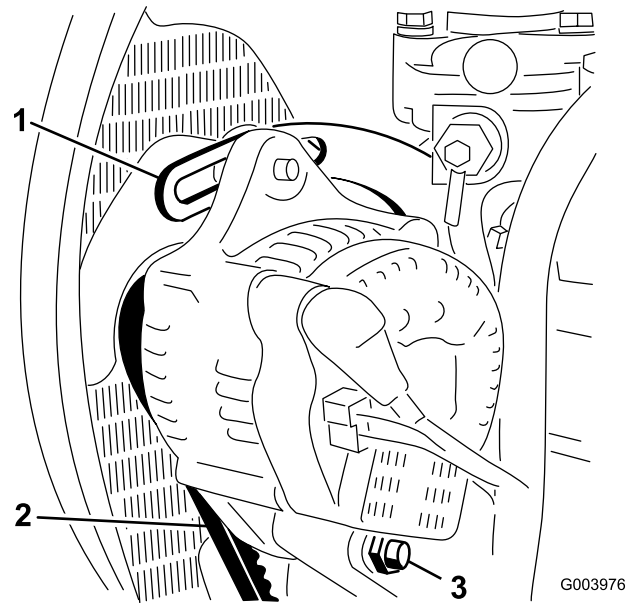

Figure 74
2. Check the tension of the alternator belt by depressing it (Figure 74) midway between the alternator and the crankshaft pulleys with 22 lb (10 kg) of force.
3. Loosen the bolt securing the brace to the engine (Figure 74), the bolt securing the alternator to the brace and the pivot bolt.